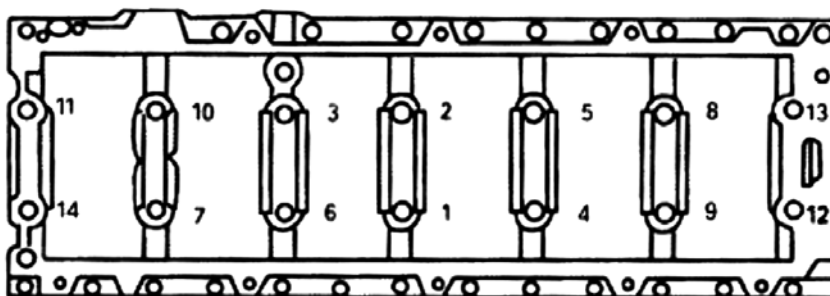

Fig.4 Tightening Order of Main Bearing Bolt
- b. Tighten through bolt to $200+10 \text{ N}\cdot\text{m}$ in the order shown in fig.4;
- d. Tighten through bolt in the order shown in fig.4, and then turn the nuts to 900;
- f. Tighten through bolt in the order shown in fig.4, and then turn the bolts to 900;
It is made of high-strength gray pig iron. Being divided into two parts, the upper cylinder block is block and the lower is crankshaft case. Since there is no any gasket between block and crankshaft case, clean the mating faces and supply with sealant (Loctite510) before connecting. Secure 14 main bearing bolts of M18 with given tightening torque when connecting, and then 25 inner hexogen bolts of M8. The tightening methods should follow the requirements shown in table 8 and fig.4. The high rigidity improves reliability and durability of cylinder block.